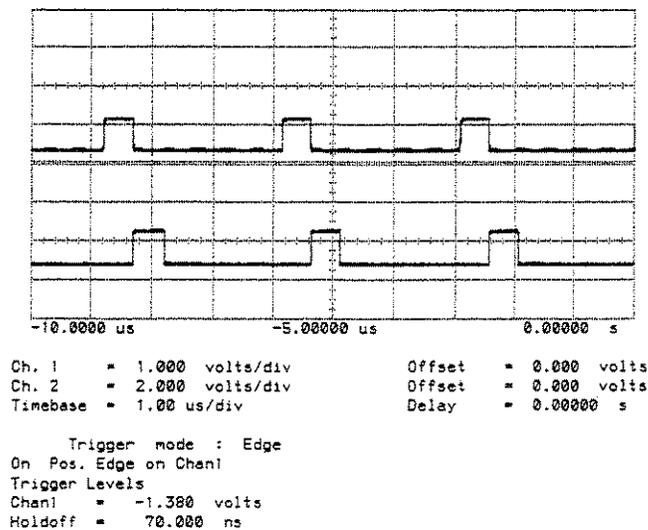

Figure 8-6 Pattern Trigger Output (6-Bit Word)
- Check the Oscilloscope display is as shown in Figure 8-6.